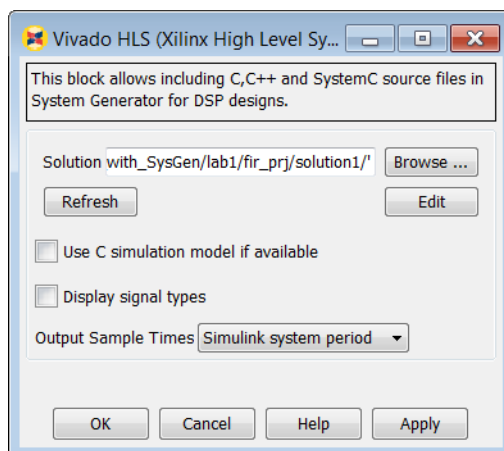

Figure 11-7: Selecting the FIR IP Block
9. Click **OK** to load the IP block, as shown in Figure 11-7.